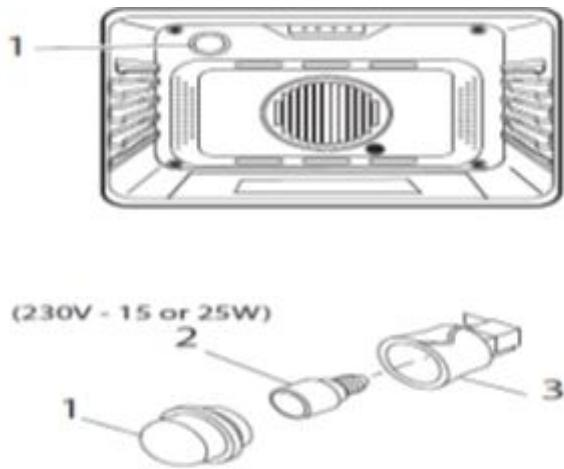

Fig.7
2. Remove the lens (1) by unscrewing it.
3. Remove the light bulb (2) from its socket (3).
4. Replace the bulb (2) with a new one. Avoid touching the bulb with fingers, as oils from hands can damage the bulb when it becomes hot.
5. Use one with the same Volt and Watt (see Fig. 7).
6. Screw the lens (1) back on.